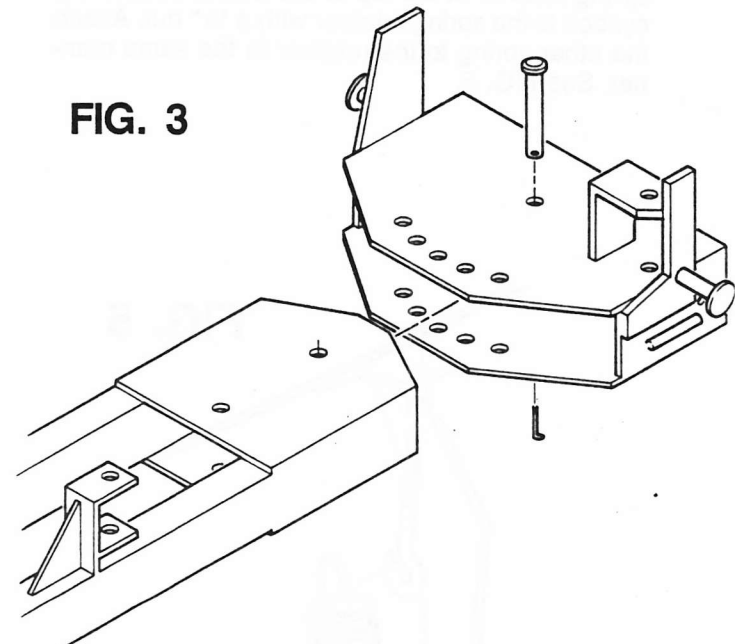

FIG. 3
2. Slide the pivot onto the sub-frame and secure in place using a $\frac{3}{4}$ x 4 clevis pin and $\frac{5}{32}$ x $\frac{1}{2}$ cotter pin. As shown in FIG. 3.